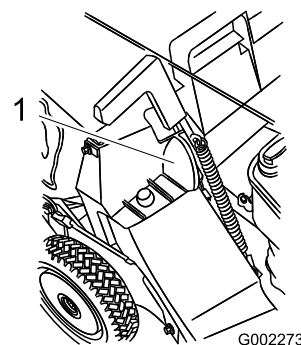

Figure 27
6. Pull the discharge door handle forward until the pin clears the bag notch, and move the handle rearward until the pin locks in the bag notch (Figure 27).